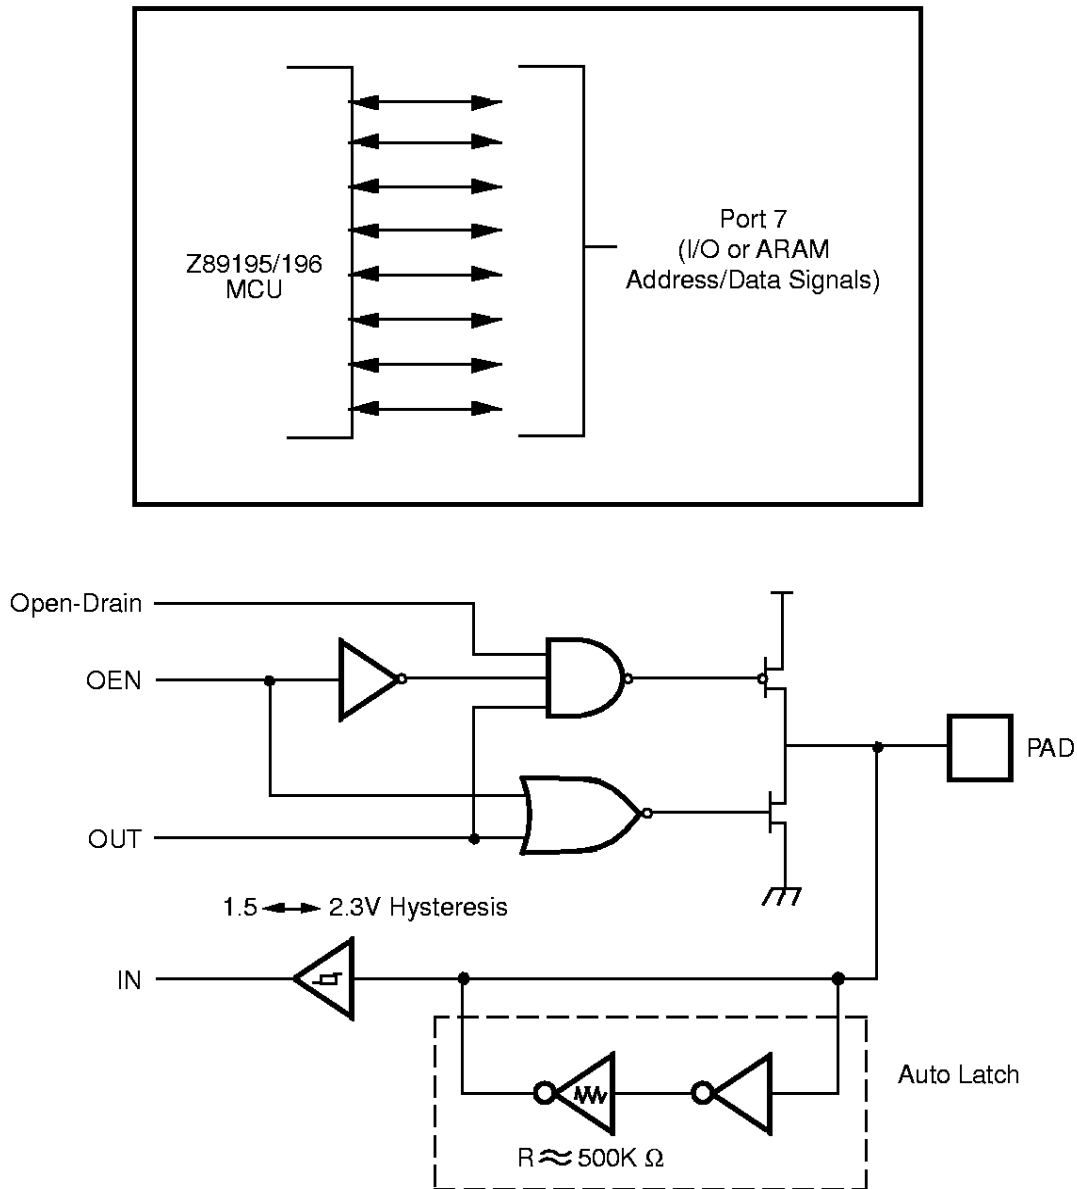

Figure 18. Port 7 Configuration
**Port 7 (P77–P70).** When the Z89195's ARAM Controller function is enabled, Port 7 is used as external ARAM Address/Data signals. Refer to the section on ARAM Controller for details. Otherwise, Port 7 is an 8-bit, bidirectional, CMOS-compatible I/O port (Figure 18). These I/O lines are configured under software control independently as inputs or outputs. The input buffers are Schmitt-triggered. Bits programmed as outputs can be globally programmed as either push-pull or open-drain.